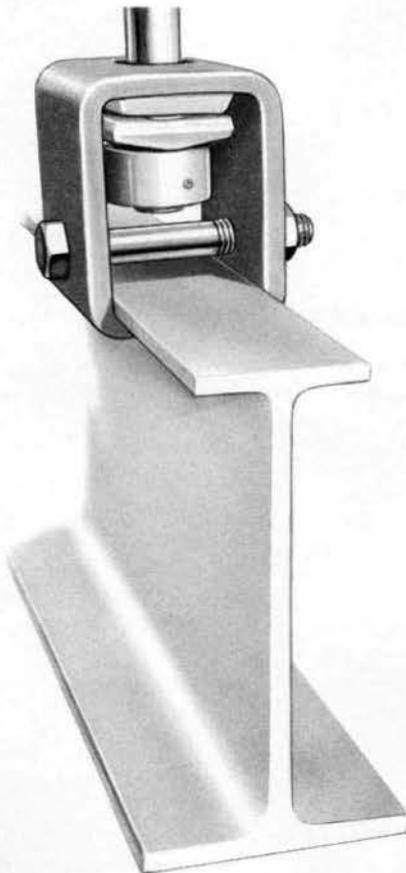

FIGURE 39
- a. Remove clamp bolt, lockwasher, and nut from track clamp. Refer to Figures 39 and 40.